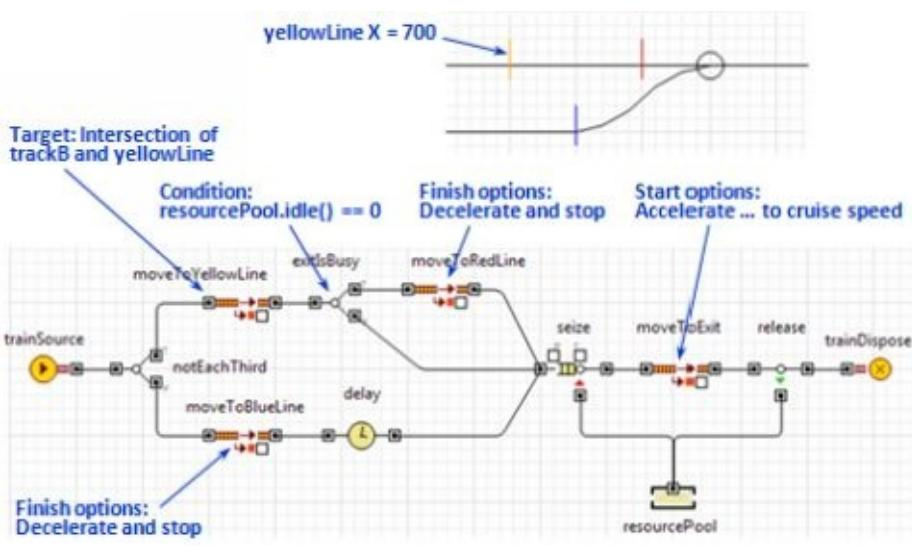

Figure 9.16 The flowchart modified to model acceleration and deceleration
16. Insert two objects between the **true** port of *notEachThird* and the input port of *moveToRedLine*: **TrainMoveTo** and **SelectOutput** as shown in Figure 9.16. Call them *moveToYellowLine* and *exitIsBusy*.